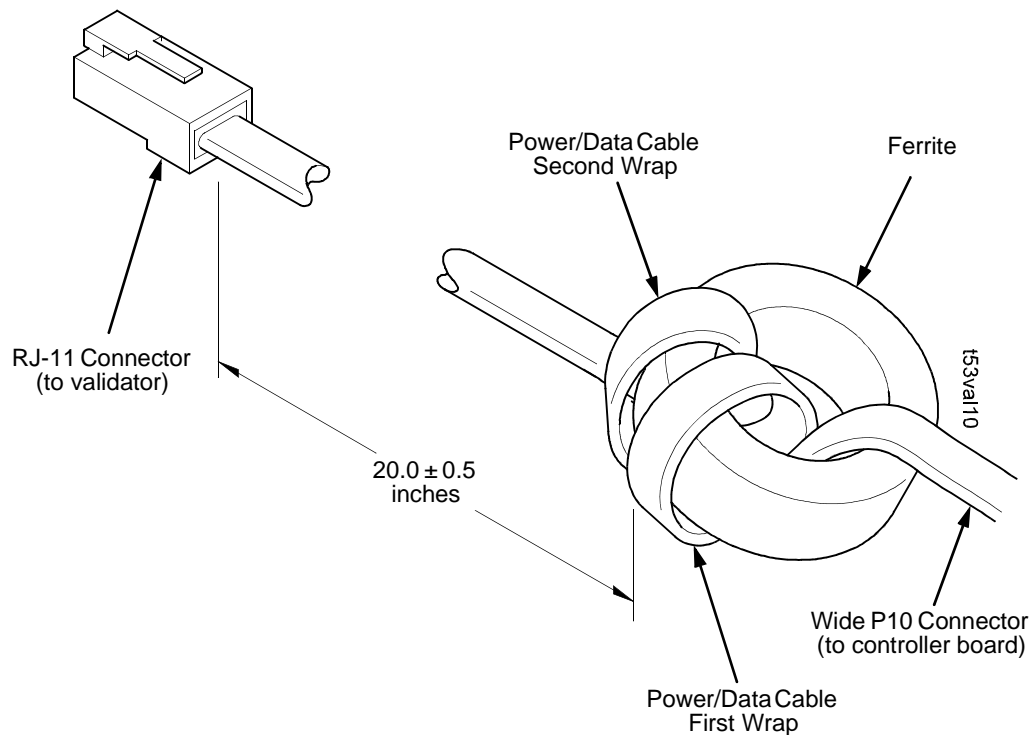

Figure 3. Wrapping the Power/Data Cable Around the Ferrite
3. Using the RJ-11 connector end of the power/data cable, insert the cable through the ferrite. (Figure 3.)